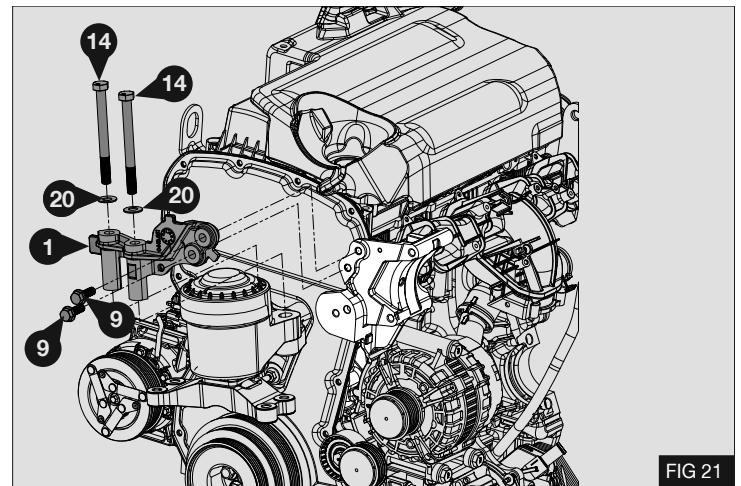

FIG 21
2. Fit front support (1) using 2x M12x130 bolts (14) with washers (20) and 2x M10x30 bolts (9) - Fig 21